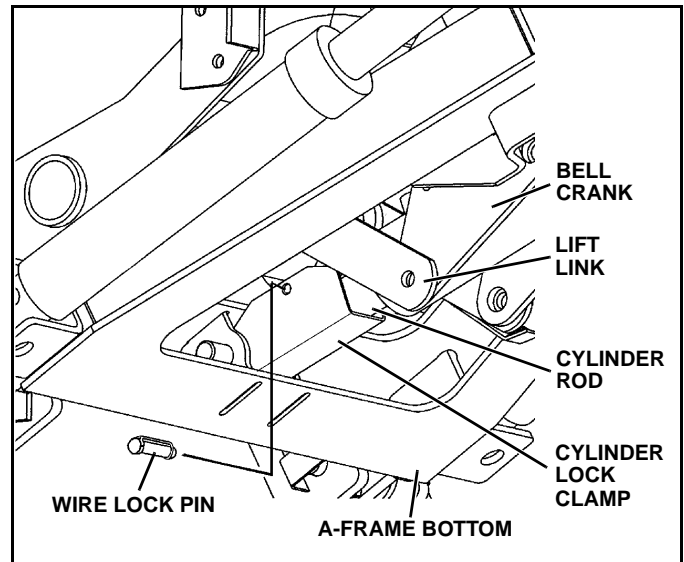

Figure 1-22
5. Position the cylinder lock clamp around the exposed (chrome) portion of the lift cylinder with the open side of the cylinder lock up. Install the pin. (See Figure 1-22).